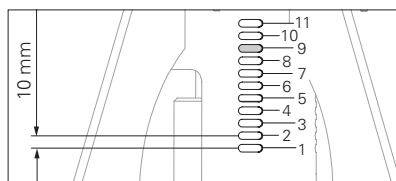

Fig. 7a
The pressure piece (3) of the spindle tube is marked in red. The starting position of the pressure piece is centered in slotted hole 9. (Fig. 7a)